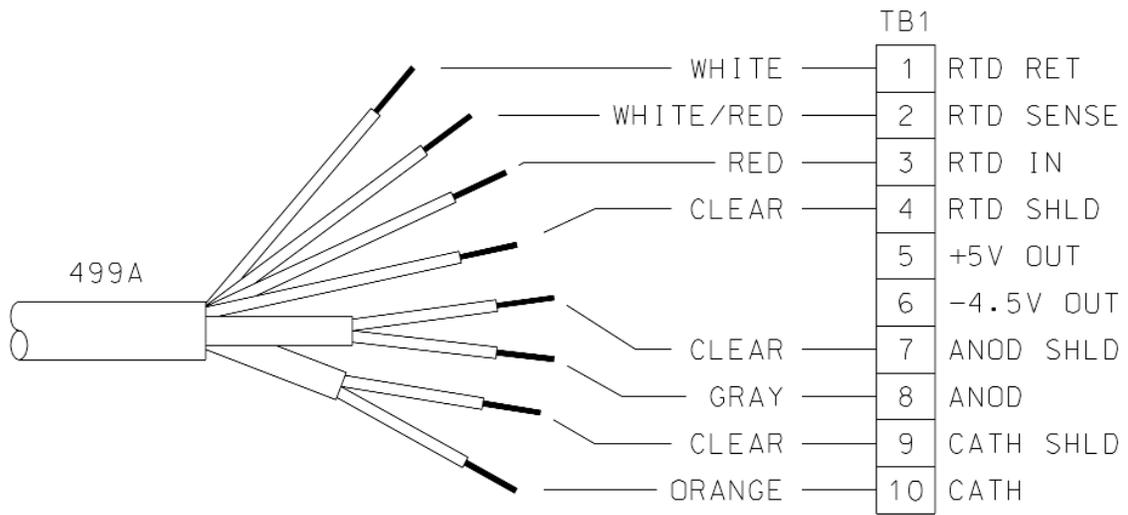

Figure 3-3. Wiring Sensor with Optimum EMI/RFI or Variopol Cable to 1056 Analyzer
6. Wire the sensor to the signal board. See Figure 3-3.